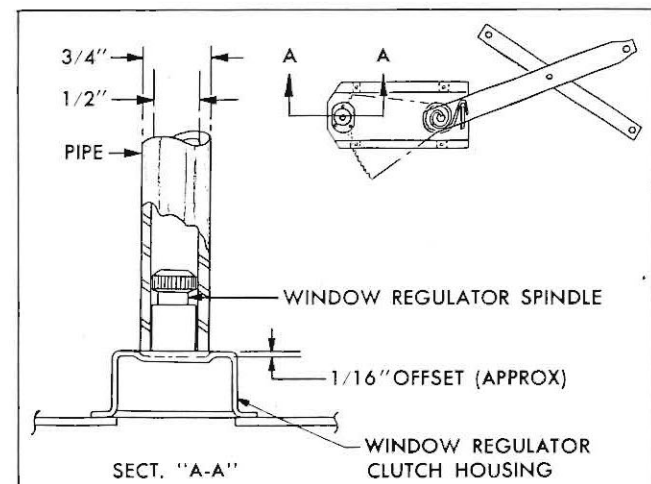

Fig. 10—Window Regulator Clutch Rework
2. Using a suitable length of $\frac{1}{2}$ " pipe and a hammer, strike the regulator clutch housing to create a $\frac{1}{16}$ " offset in the spindle area of the housing, as shown in Figure 10.